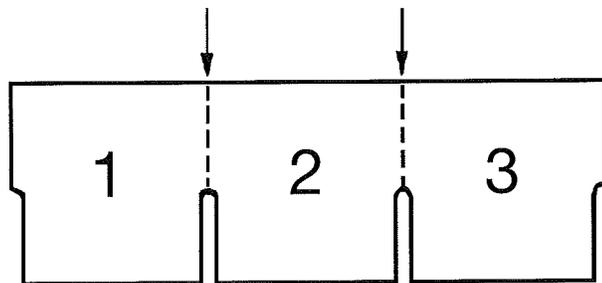

FIG. 5-24
11. Cut shingles for ridge cap and install as shown in Figures 5-24 and 5-25.